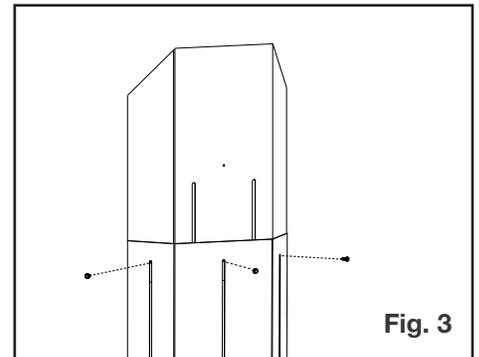

Fig. 3
3. Use the fasteners in step 1 to hold the new vent shield height (Fig. 3).